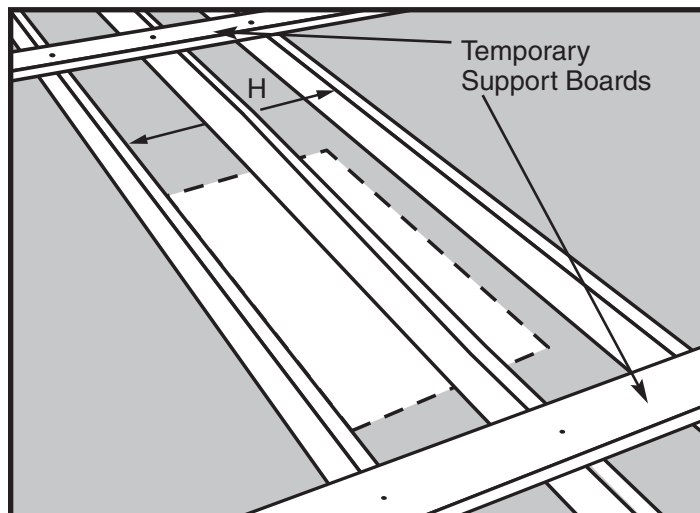

Figure 14
- STEP 1.** Measure the header length "H" between the uncut joists (See Figure 14).